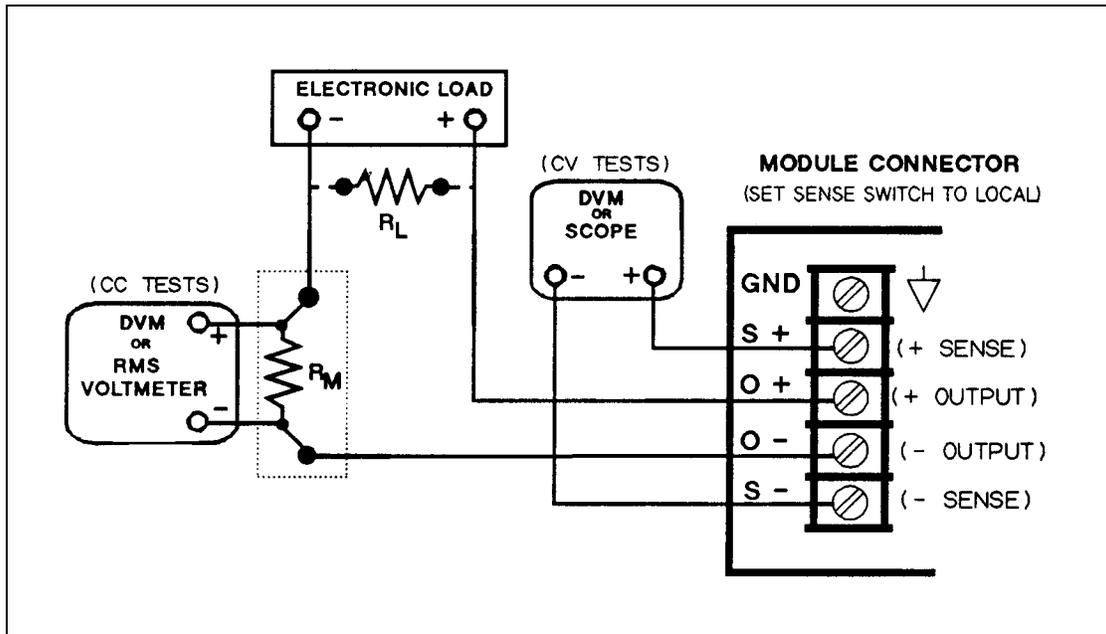

Figure 2-1. Performance Test Setup
To eliminate output current measurement error caused by voltage drops in the leads and connections, connect the current monitoring resistor between the output and the load as a four-terminal device (see R_M in Figure 2-1). Connect the current monitoring leads inside the load lead connections directly at the monitoring points on the resistor element.
1. Turn off the power module and connect a digital voltmeter between the + **S** and -**S** terminals (see Figure 2-1).
1. Turn off the module and connect the output as shown in Figure 2-1 with the DVM connected between the + **S** and - **S** terminals.
6. The difference between the DVM readings in steps (4) and (5) is the load effect voltage and should not exceed the value listed in the Performance Test Record Tables under CV LOAD EFFECT, for the model being tested.
2. Connect the output as shown in Figure 2-1 with the DVM connected between the + **S** and - **S** terminals. Set the transformer to nominal line voltage (either 115Vac or 230Vac).
9. The difference between the DVM readings in steps (6) and (8) is the source effect voltage and should not exceed the value listed in the Performance Test Record Tables under CV SOURCE EFFECT, for the model being tested.
1. Turn off the module and connect the output as shown in Figure 2-1 to an oscilloscope (ac coupled) between the + and-- terminals. Set the oscilloscope's bandwidth limit to 20MHz (30MHz on the Agilent 54504A) and use an RF tip on the oscilloscope probe.
1. Turn off the module and connect the output as shown in Figure 2-1 with the oscilloscope across the + **S** and -**S** terminals.
1. Turn off the module and connect the output to be tested as shown in Figure 2-1 with the voltmeter connected across the current monitoring resistor.